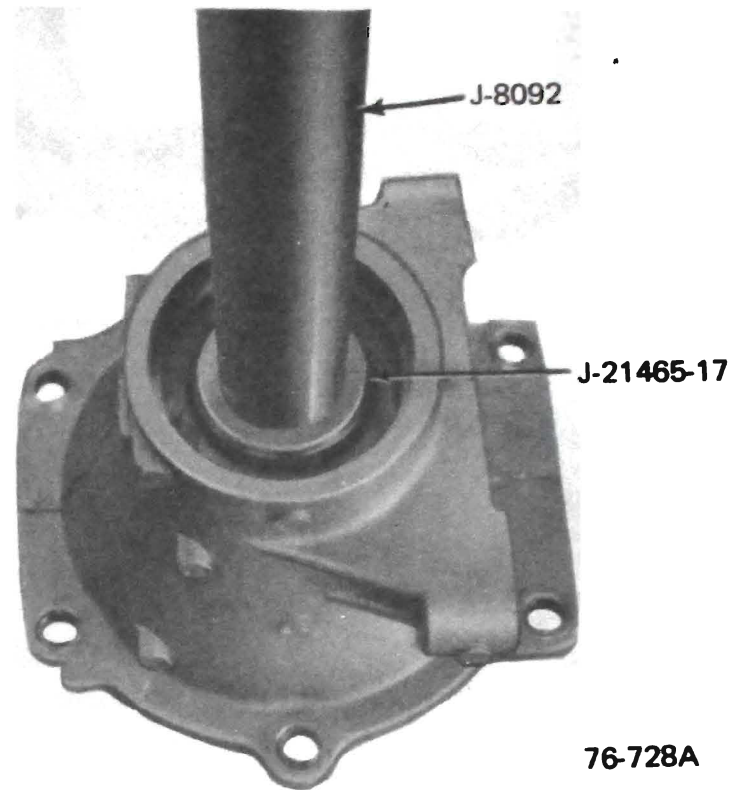

Figure 76-235
a. Using Drive Handle J-8092 and Tool J-21465-17, remove bushing. See Figure 76-235.
b. Using Drive Handle J-8092 and Tool J-21465-17, install bushing. See Figure 76-235.